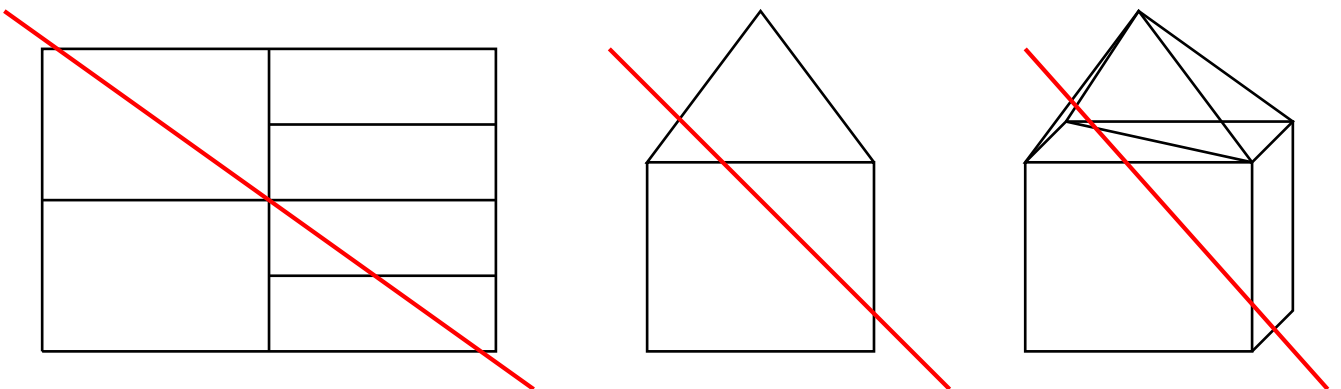

Figure 3.3: Prohibited meshes
**Be carefull** non standard and hybrih meshing are not supported! (cf Figure 3.3)